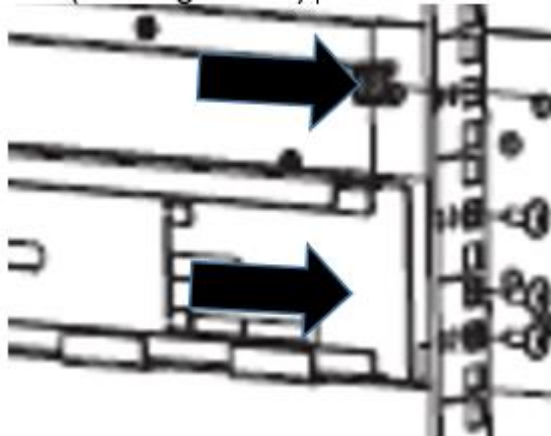

Figure 27: Install Cage Nuts in the Front Equipment Rail with Square Holes
16. Install the 4x cage nuts in the rack front equipment rail, with square holes. One in each of the first locations below the bottom rail kit screw and one in each of the third locations above the top rail kit screw (see Figure 27).